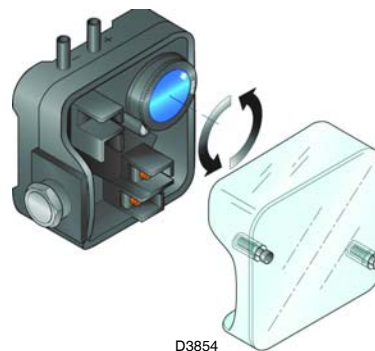

Fig. 29
- Adjust the minimum gas pressure switch (Fig. 29) to the start of the scale.
Adjust the air pressure switch (Fig. 29) after having performed all other burner adjustments with the air pressure switch set to the min. of the scale.
Adjust the minimum gas pressure switch (Fig. 29) after having performed all the other burner adjustments with the pressure switch set at the start of the scale.